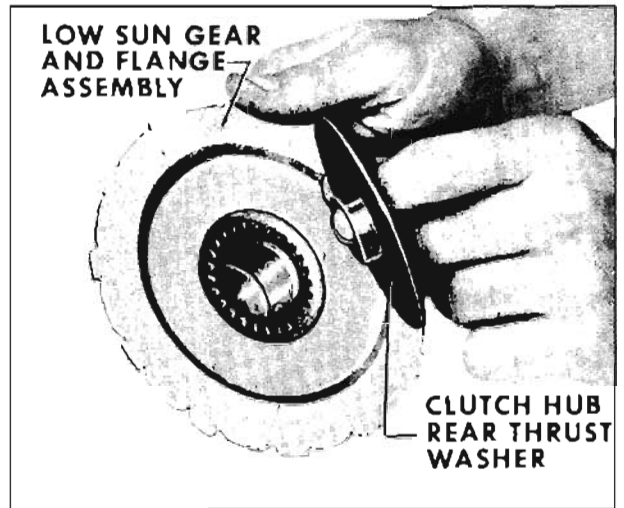

Fig. 6-368 Installing Thrust Washer
10. Install clutch hub rear thrust washer with its flange toward low sun gear and flange assembly. (Fig. 6-368)